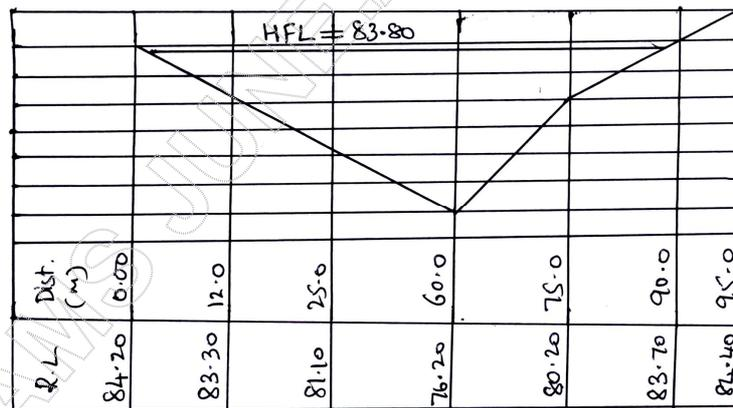

Fig. Q1(b)
- b. The cross section of a stream is shown in Fig.Q1(b). The average bed fall of the stream is 1 : 1600. Determine the maximum discharge. Take Manning's coefficient as 0.025 and HFL = 83.80. (15 Marks)